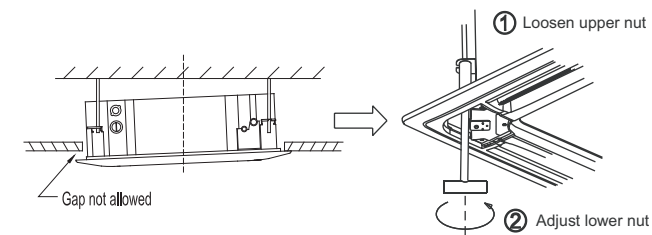

Fig. 1-13
- If the gap between the panel and ceiling still exists after fastening the screws, the height of the indoor unit should be modified again. (Refer to Fig.1-13)
- You can modify the height of the indoor unit through the openings on the panel's four corners, if the lift of the indoor unit and the drainpipe is not influenced (Refer to Fig.1-13).